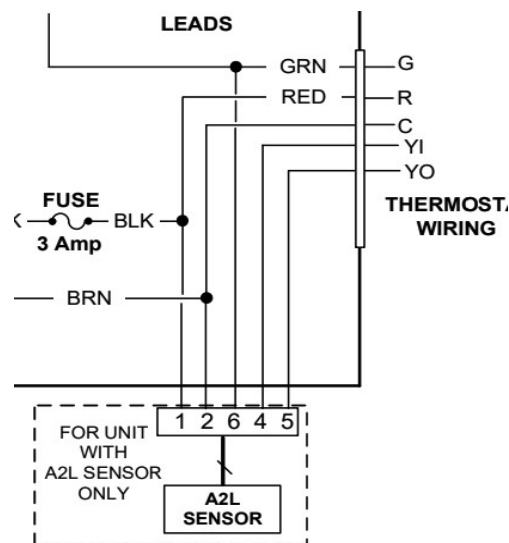

Figure 10 - Sensor Wiring
5. Connect the A2L harness from the sensor to the unit wiring kit polarized plug. Refer to the unit wiring diagram for sensor wiring. Figure 10 shows an example wiring diagram excerpt.